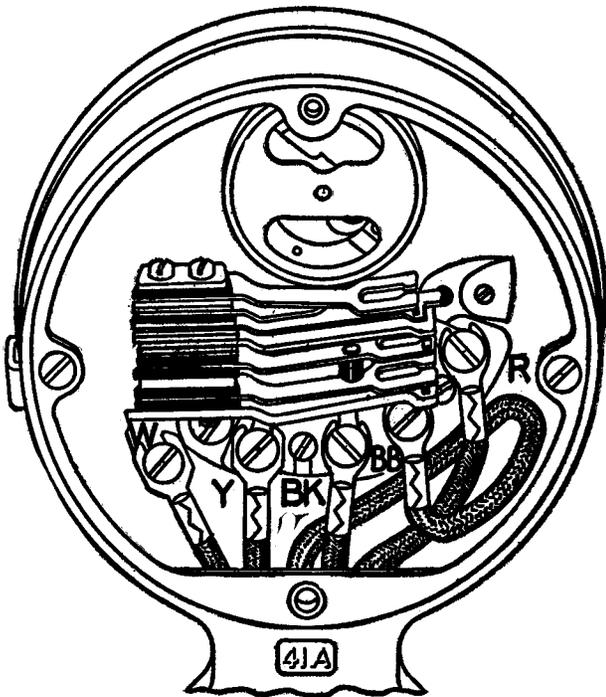

Fig. 12—Dial Cording—4- and 5-Type Twin Contact Dials
1.05 The cording of sets having single contact 4- and 5-type dials should be in accordance with Figs. 6 to 11 inclusive. The same information, other than dial cording, applies to sets with twin contact 4- and 5-type dials as well as 6-type dials. The typical dial cording for the latter types is shown in Figs. 12 and 13. The same general principles of cording should be followed in the case of sets having a different number of dial conductors.